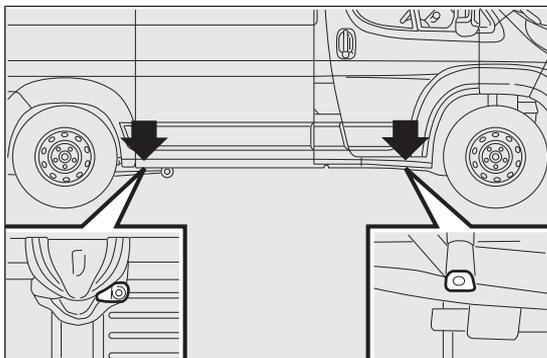
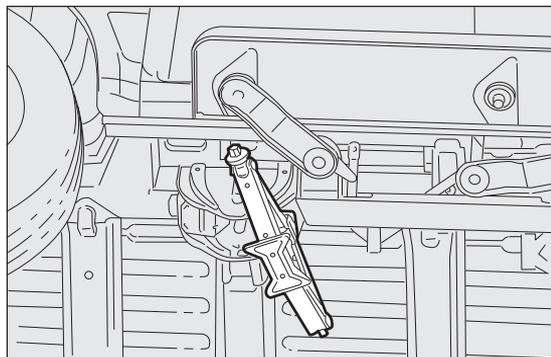

fig. 168
fig. 169
- arrange the jack near the lift support closest to the wheel to be replaced at the points shown in fig. 168. For short wheelbase versions with retractable footboard, the jack must be positioned at the lift point shown in fig. 169 aligned (45°) so that it does not interfere with the retractable footboard;